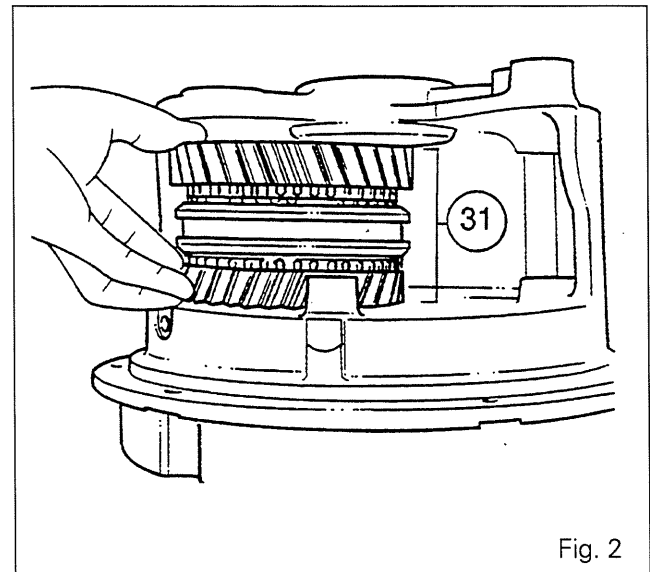

Fig. 2
7. Remove the reverse idler shaft retaining screw (11), then the shaft (14). Remove idler gear (17) and cones (12) (13).
8. Take out the cups (15) and (18). Remove shim [16].
9. Remove screws (28). Remove retaining plate (29), shims [1] and bearing cup (27).
10. Remove the gears and synchromesh assembly (31) (Fig. 2) and the rear washer (7).
11. Remove rear bearing cone (8) and cup (9).